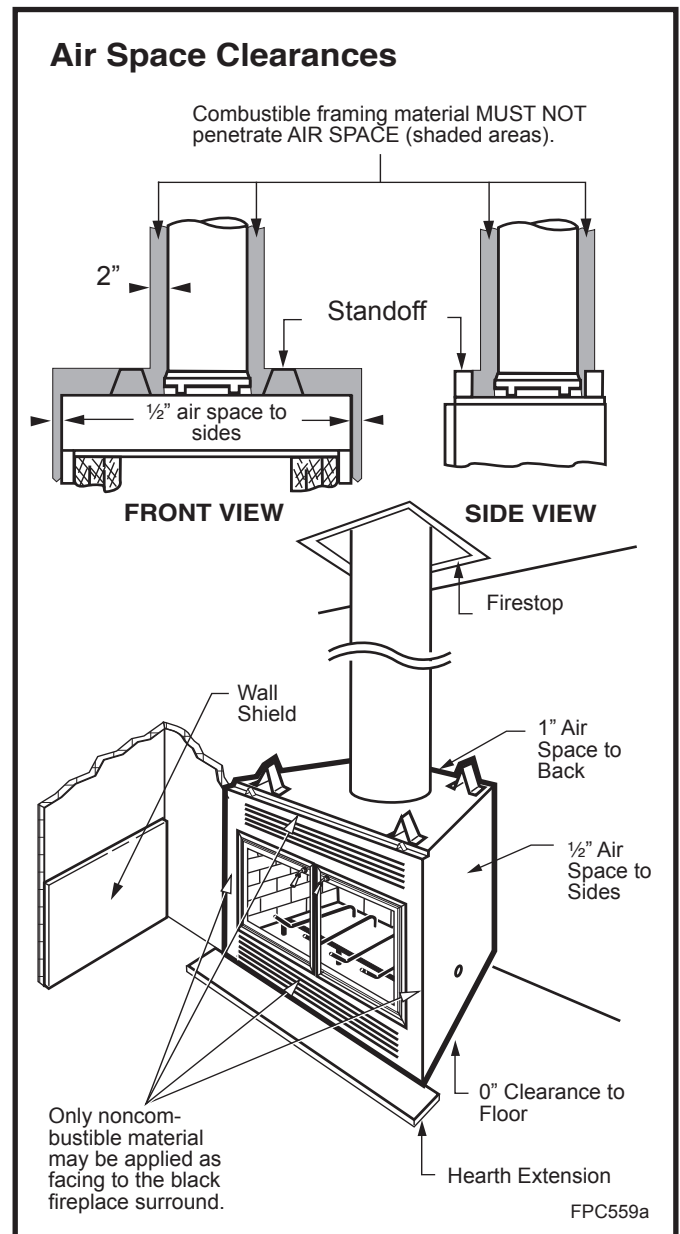
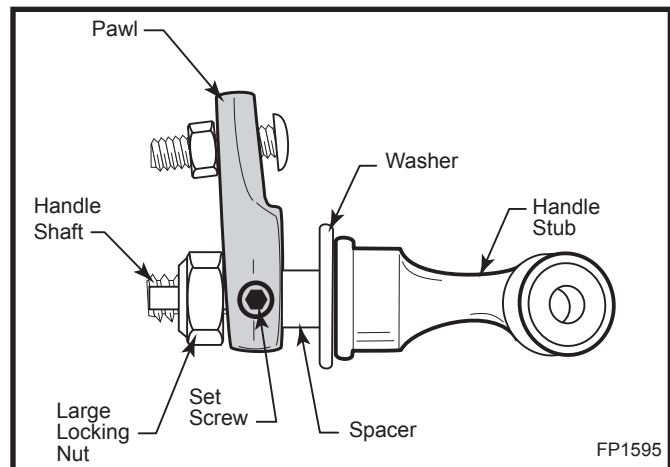

Fig. 18 Minimum clearances to combustibles.
Fig. 24 Right door handle stub parts.
CAUTION: All joints between the finished wall and the fireplace surround (top/sides) must be sealed with non-combustible material to prevent cold air leakage into the room. Only noncombustible material may be applied to the facing of the fireplace surround. (Black painted area) (Fig. 18)
Adjacent combustible side walls that are within minimum dimensions shown in Figure 24 of the fireplace opening must be protected with CFM Corporation Wall Shield Model SP40 or a specifically built wall shield described in Figure 18.
The special wall shield design described in Figure 18 is an alternate method of adding protection to side walls and can be used in place of the SP40 with the same wall clearances specified for the SP40. Rt must =1.85 minimum.
Alternate noncombustible materials may be used providing the (total) thermal resistance (Rt value) of the alternate material employed is greater than or equal to $R = 1.09$ Thermal resistance (R) or thermal conductivity (K), may be obtained from manufacturer of the material. Factors are related by the formula $K = 1/R$. (Fig. 24)
2. Remove the large locking nut from right door handle stub shaft. (Fig. 24)